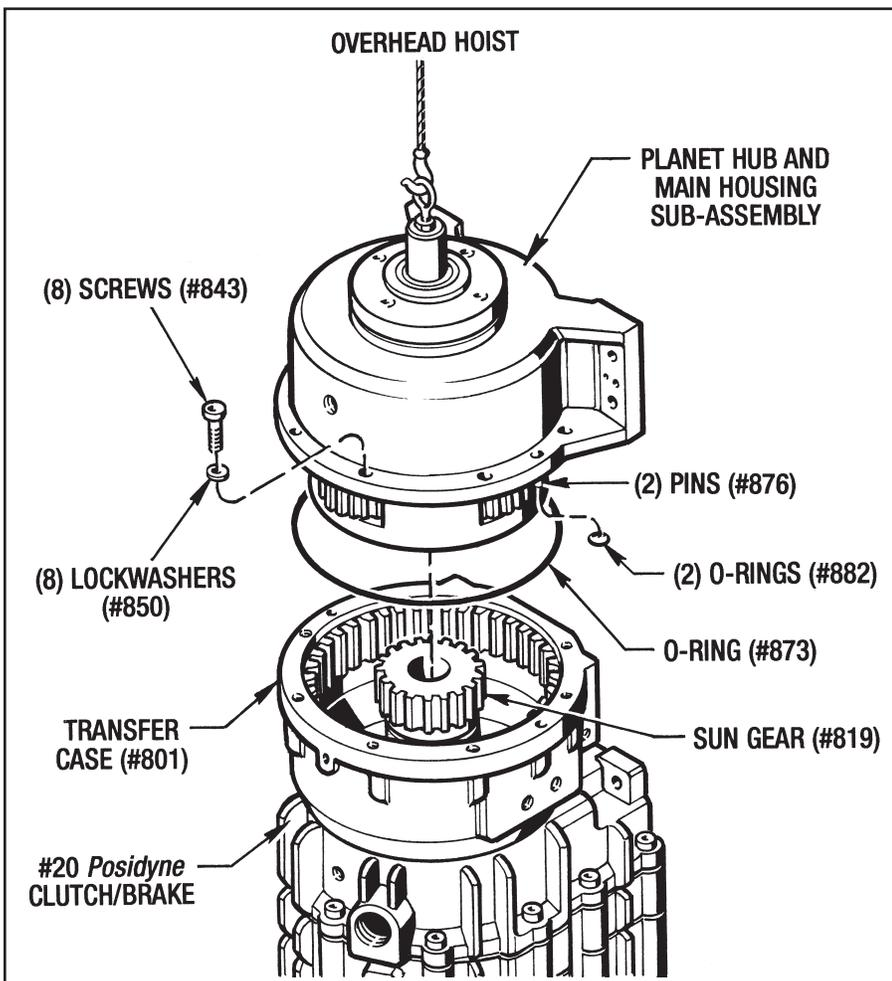

Figure 9.26 - Planetary Gear Reducer Installation
2. Set the #20 *Posidyne* with the output shaft pointed up. Lubricate and install (8) O-Rings into the output housing face counterbores. Also lubricate and install the large O-Ring (#872) into the O-Ring Groove in the Transfer Case (#801).
3. Set the Transfer Case (#801) on the output housing using the (2) Pins (#876) for alignment. Attach with (6) Screws (#843) and (6) Lockwashers (#850). **Torque to 60 Ft. Lbs.**
4. Lubricate (2) O-Rings (#882) and install them over the (2) Pins (#876) in the back face of the Main Housing (#800). Also lubricate and install the large O-Ring (#873) into the O-Ring Groove in the back face of the Main Housing (#800).
5. Install an eye-bolt into the end of the Planet Hub shaft and with an overhead hoist carefully lower the Main Housing and Planet Hub Assembly on to the Transfer Case (#801). Use the (2) Pins (#876) for alignment. (See Figure 9.26)